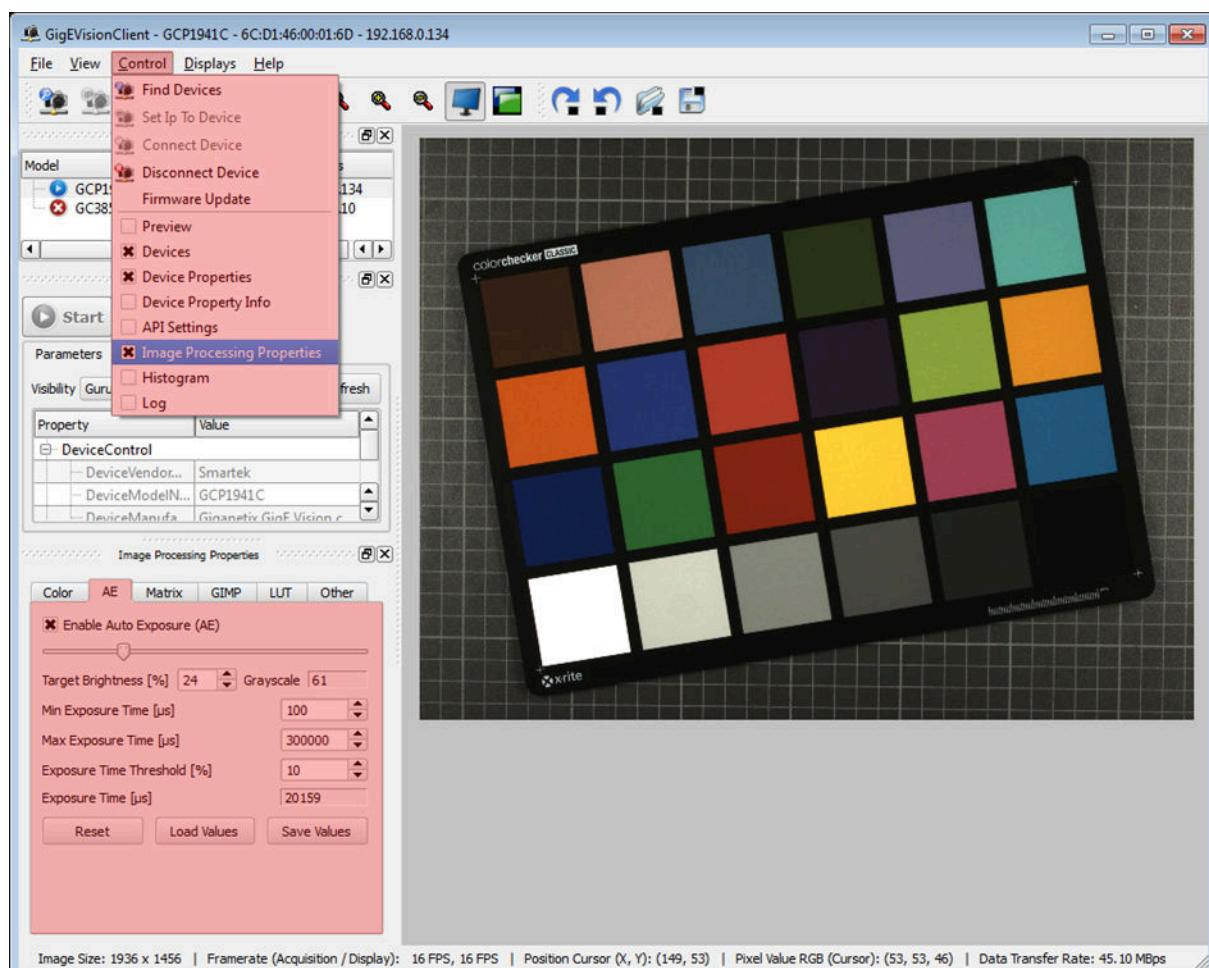

Figure 124: Auto Exposure in *GigEVisionClient*.
In the *GigEVisionClient* the Auto Exposure (AE) can be enabled / disabled in the *Image Processing Properties* panel under AE (see Figure 124). If not visible, the panel can be enabled by the menu bar entry *Control* ⇒ *Image Processing Properties*.